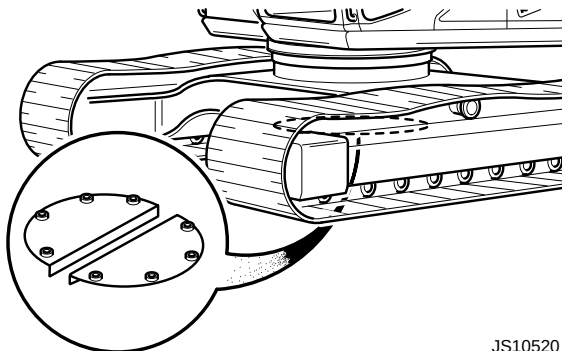

Fig 3.
- 3 Remove the belly plates. ⇒ Fig 3. \(E-172\)